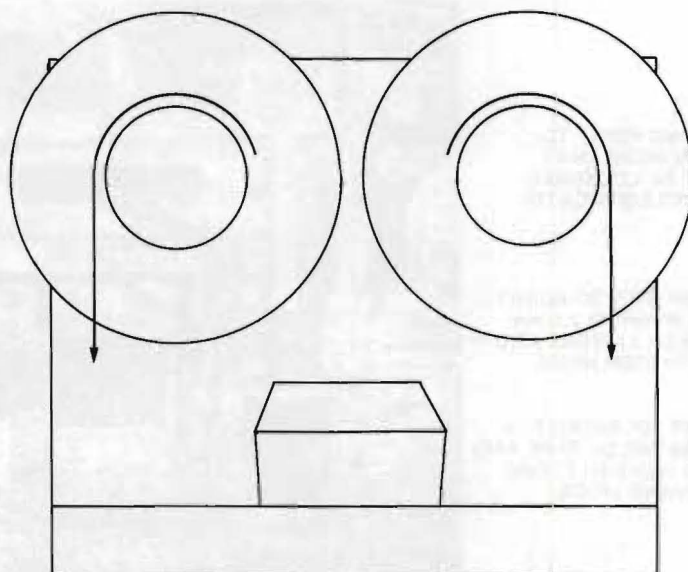

FIGURE 5-7. MEASURING SUPPLY AND TAKEUP REEL TENSION
2. Attach a string to a spring scale, and wind it onto the supply reel (an NAB hub) as shown in figure 5-7.
4. If necessary, adjust the SUPPLY GAIN trimmer (VR5) on the front of the REEL CONTROL board (C), once again pulling and releasing the spring to check for 350 grams average tension for 1/4" tape (400 grams for 1/2" tape). Clockwise rotation of the trimmer increases the tension. When tension is correct, press STOP.
1. With the transport still in the test mode (per 5.8.1), attach the spring scale to the takeup reel as shown in figure 5-7.